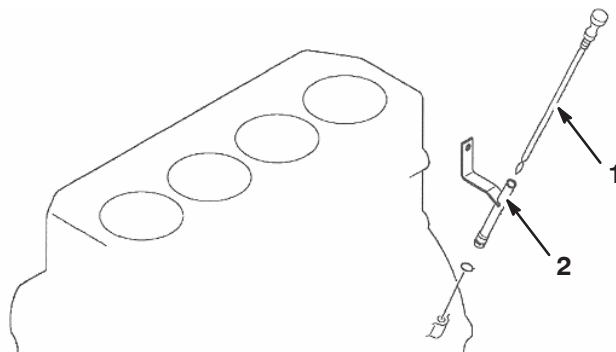

Figure 1
2. Remove the dipstick from the oil level guide (Fig. 1).
3. Remove and retain the screw securing the oil level guide mounting strap to the side of the engine. Remove and discard the oil level guide and the O-ring from the engine. (Fig. 1).